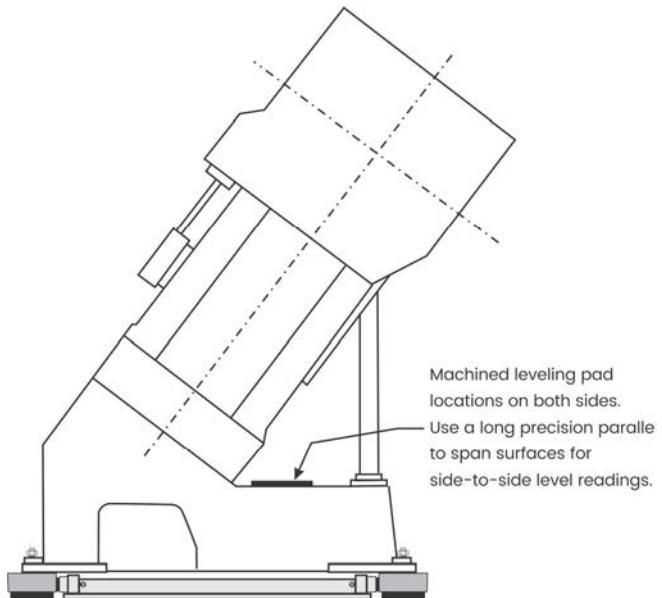

Figure 10
25. Refer to the machine manual for the machine's leveling locations and tolerances. Given that this press is inclined, a precision parallel, long enough to span the leveling locations in the side-to-side direction, or a sine block bolted to the press bed will be required for side-to-side level readings. See Figure 10.